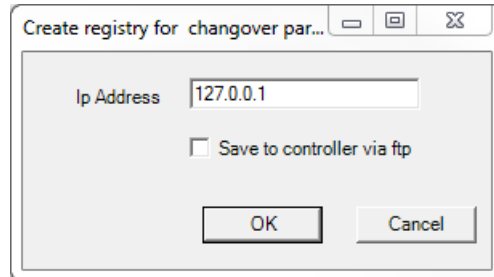

Figure 115 Pbak Test Utility - Create Registry for Changeover Partner
1. Click on Changeover in order to display the Create Registry for Changeover Partner window (Figure 115).